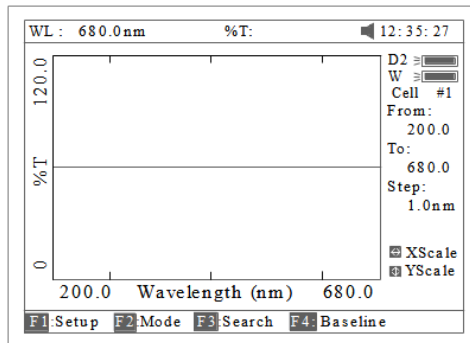

Fig 14
1. The key **【ENTER】** be pressed, the file selected will be loaded and displays on the screen. Fig 14.
- Press the key **【SAVE】** in Fig14 to save curve.